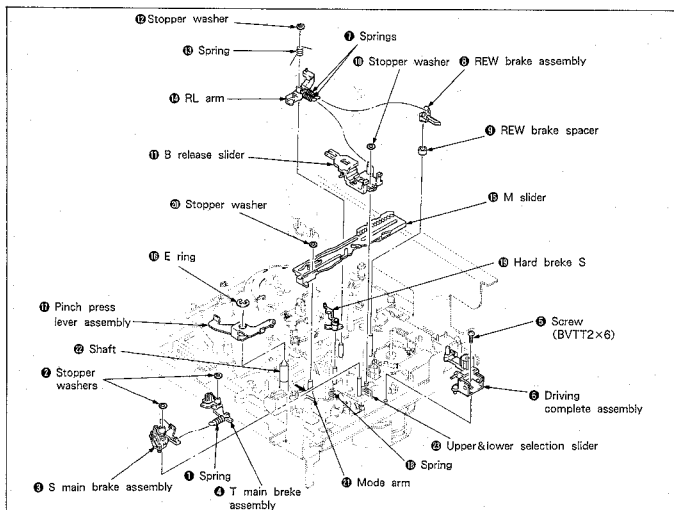

Fig. 7-40.
1. Removal (See Fig. 7-40.)
Mounting (See Fig. 7-40.)